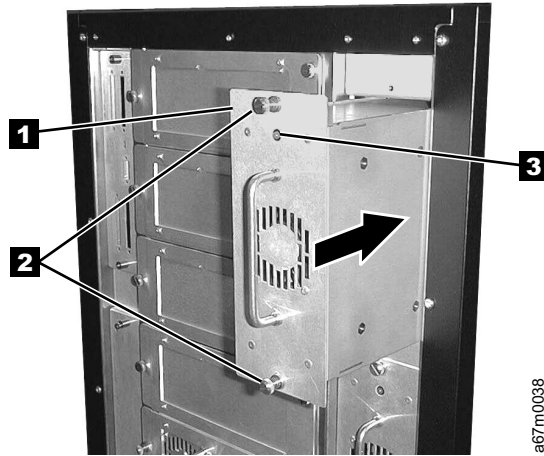

Figure 29. Installing a redundant dc power supply
2. Locate the slot where you want to install the redundant dc power supply. Loosen the two captive thumbscrews on the cover plate and remove the cover plate (see Figure 29 on page 43).
**Note:** Before inserting the dc power supply, be sure to orient the power supply so that the LED **3** is located as shown in Figure 29 on page 43.
3. Slide the power supply (**1** in Figure 29 on page 43) into position until it mates with the power distribution board and tighten the two captive thumbscrews **2**.